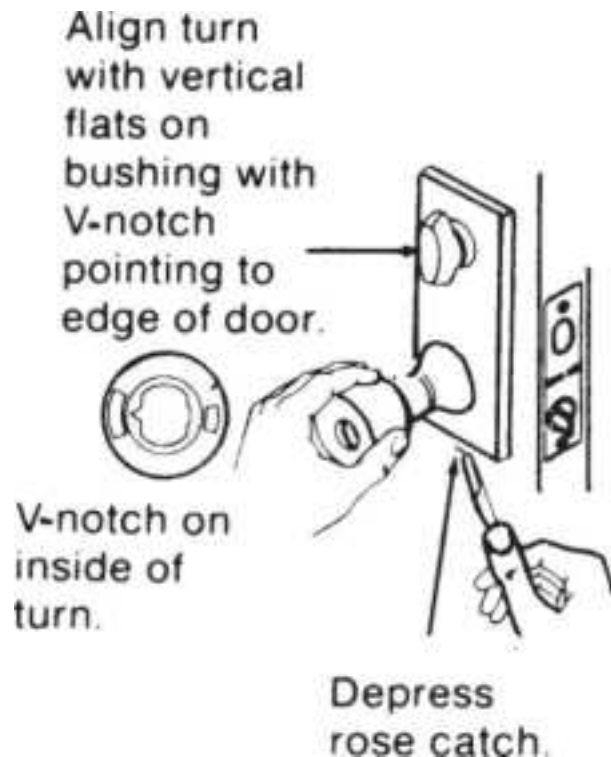

**Figure 13.68** Install inside rose.
14. Install the inside rose with the turn unit in the vertical position and the V-notch on the inside of the turn pointing to the edge of the door (Fig. 13.68 ).